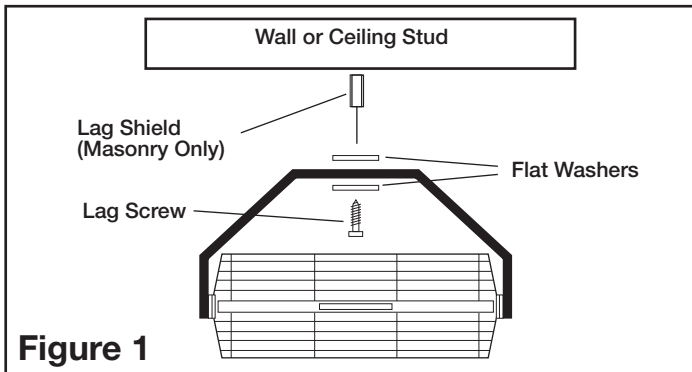

Figure 1
- Wood Structures:** locate the wall or ceiling stud nearest to the desired fan location. Attach the fan to the stud using a 3/8" diameter x 2" long lag screw (not supplied) (Figure 1).
- Masonry Structures:** attach fan using a 3/8" lag screw, with a lag shield of appropriate length (not supplied) (Figure 1).